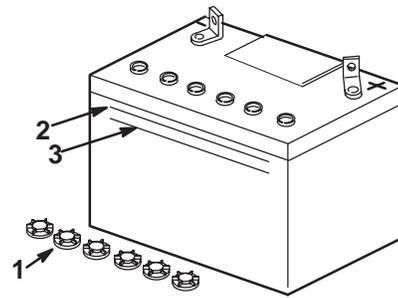

Figure 40
2. Look at the side of the battery. The electrolyte must be up to the upper line (Fig. 40). Do not allow the electrolyte to get below the lower line (Fig. 40).
3. Remove the vent caps from the battery (Fig. 40).
4. Slowly pour distilled water into each battery cell until the level is up to the upper line (Fig. 40) on the battery case.
5. Wait five to ten minutes after filling the battery cells. Add distilled water, if necessary, until the electrolyte level is up to the upper line (Fig. 40) on the battery case.